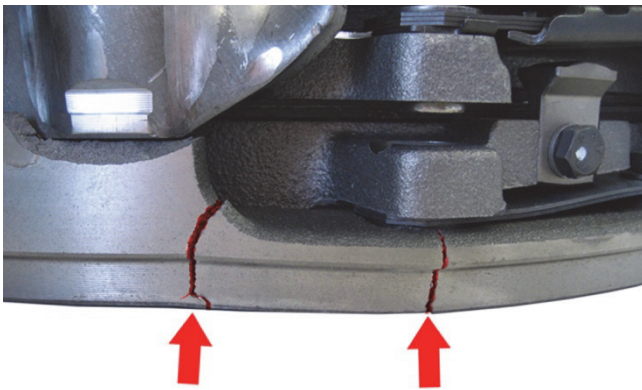
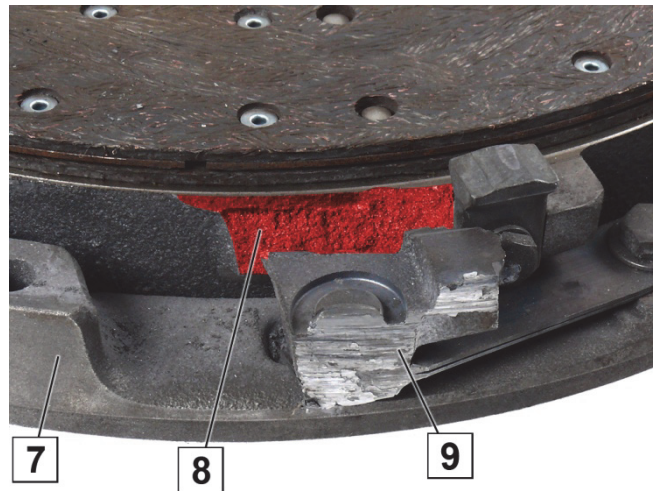

Fig. 2: Intermediate ring broken
Fig. 3: Intermediate ring, eye broken and worn down at bellhousing
Do not install the double-disk clutch with the broken intermediate ring (Fig. 2). The broken intermediate ring causes separation difficulties. The broken-off eye (9) of the intermediate ring (7) moves outwardly due to centrifugal force and damages or destroys the bellhousing (Fig. 3).
- Check the intermediate ring (7) for points of failure (Fig. 2).
- Check the intermediate ring (7) behind the eyes (6) for damage.